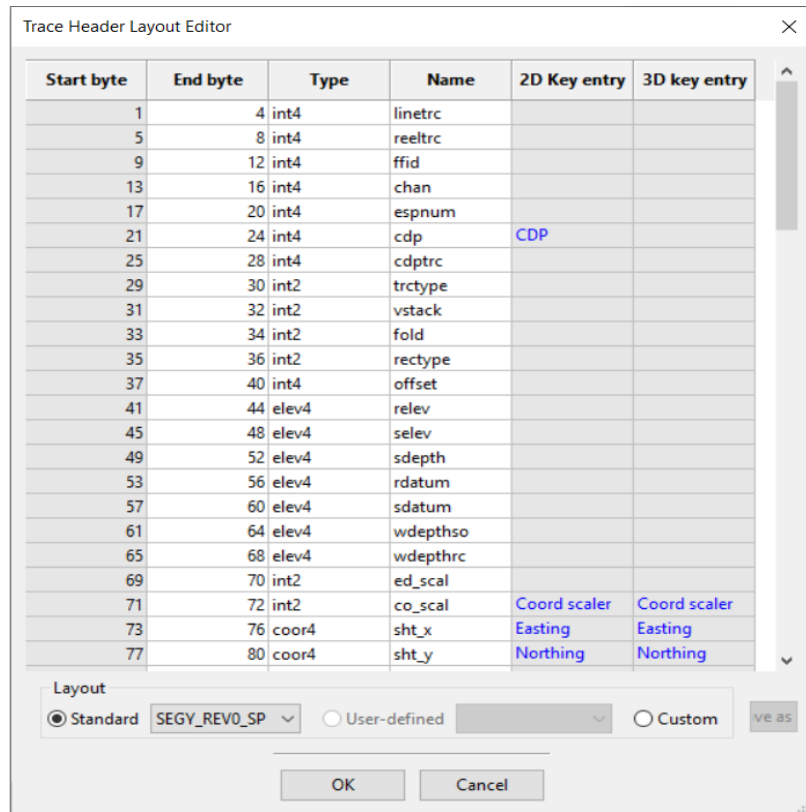

Figure 4-10 Trace header layout editor for a single SEG Y file
1. Right-click on the required SEGY file listed in the left-hand panel. Select **Edit layout** from the popup menu options. A floating *Trace Header layout editor* panel will open for the selected line (Figure 4-10).